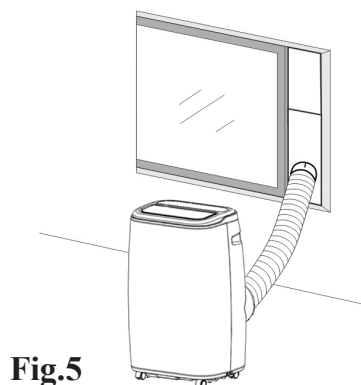
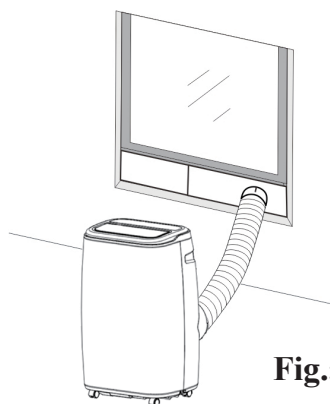

Fig.5
Fig.5a
- 2) As shown in Fig.5 and Fig.5a, install the exhaust hose, and adjust the window position well.